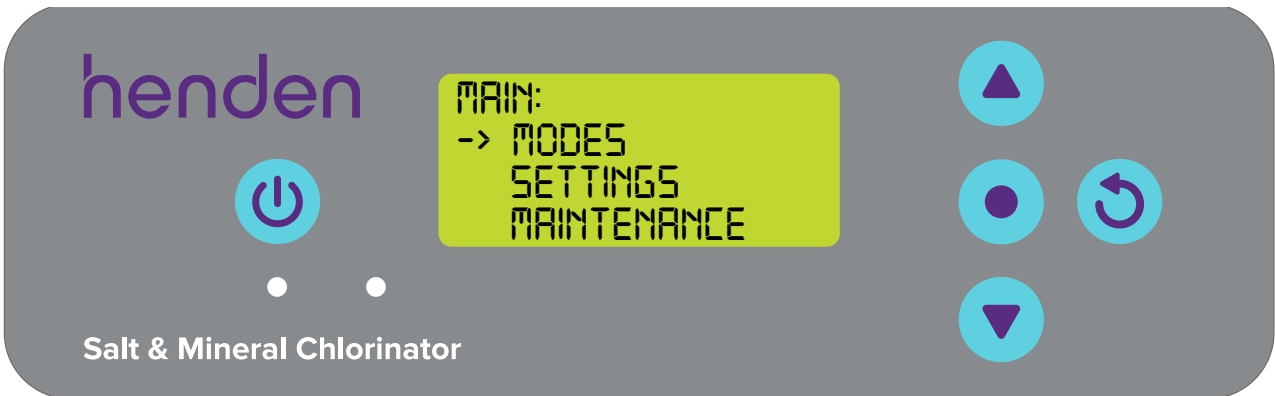

Figure 8.46
- From the **HOME SCREEN**, press the  **menu/setting select** button. This will now show the main menu (Figure 8.46)